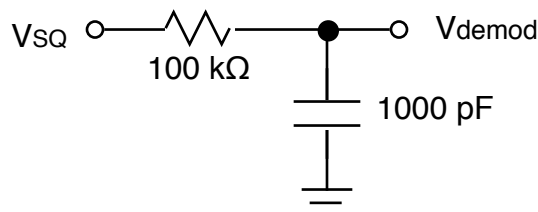

Figure 3.4. Averaging network to demodulate PWM signal.
- 3.3 For  $V_{ext}$ , increase the function generator frequency to about 200 Hz. Construct the averaging network (low-pass filter) shown in Figure 3.4. Compare  $V_{demod}$  with the PWM input  $V_{ext}$ . Explain.